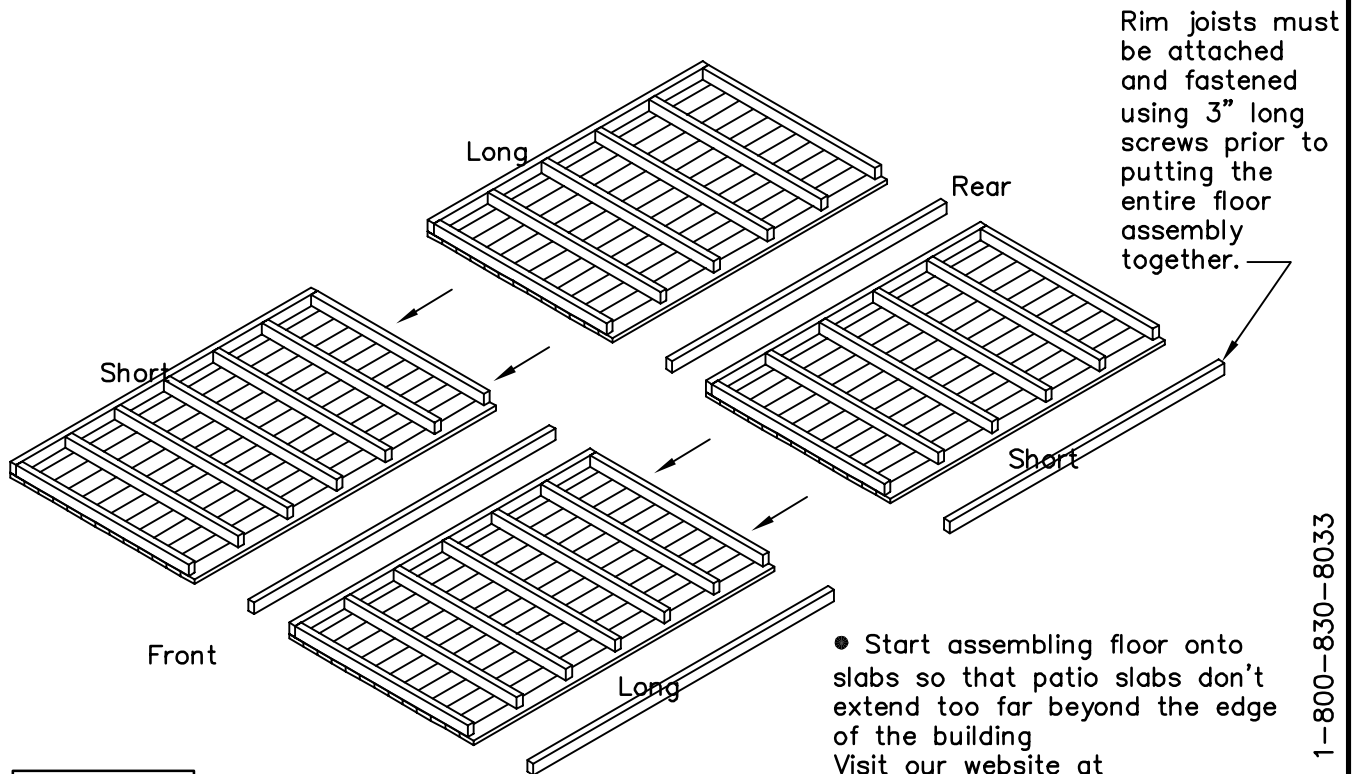

FIGURE F4
- Push the floor panels together as shown in Figure F4. It is recommended to mix the short and long floor panels as shown to strengthen the floor system.